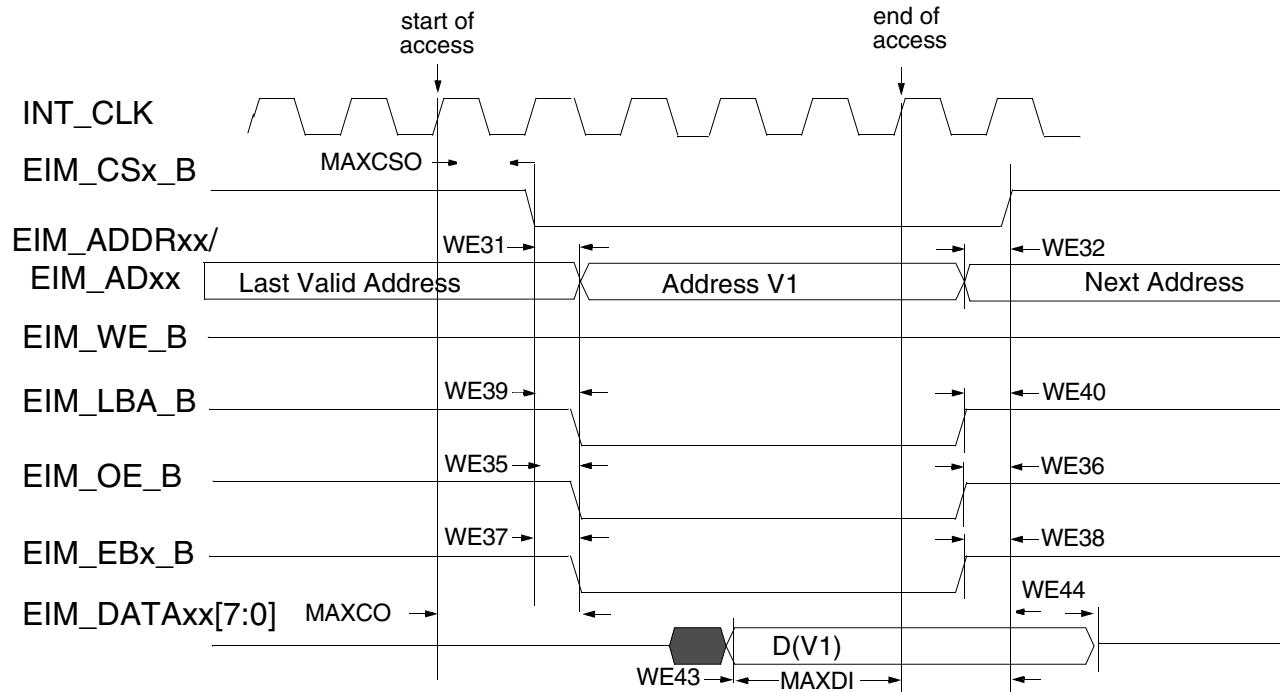
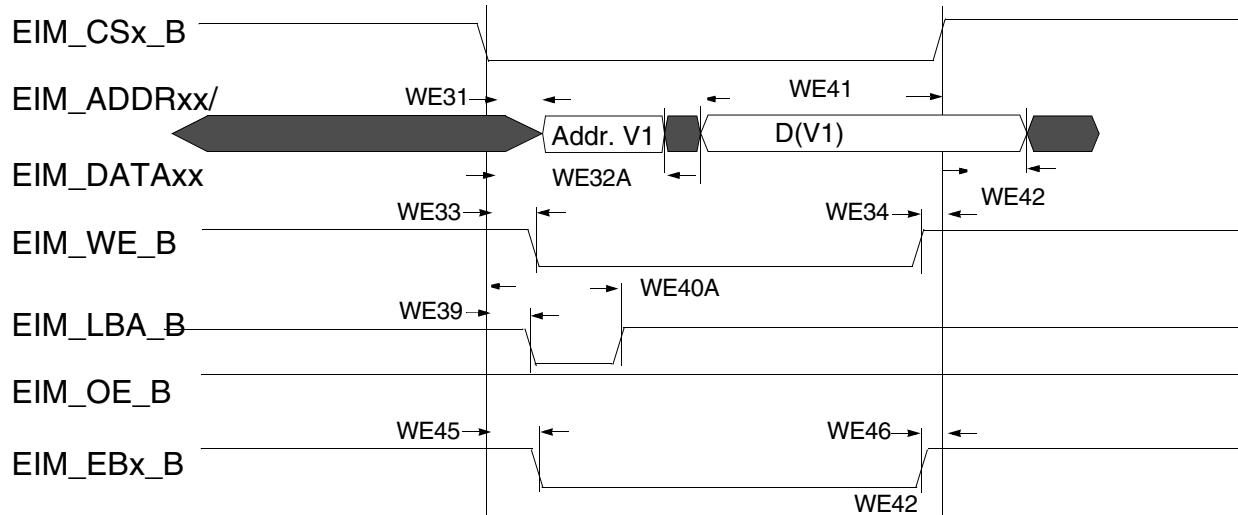
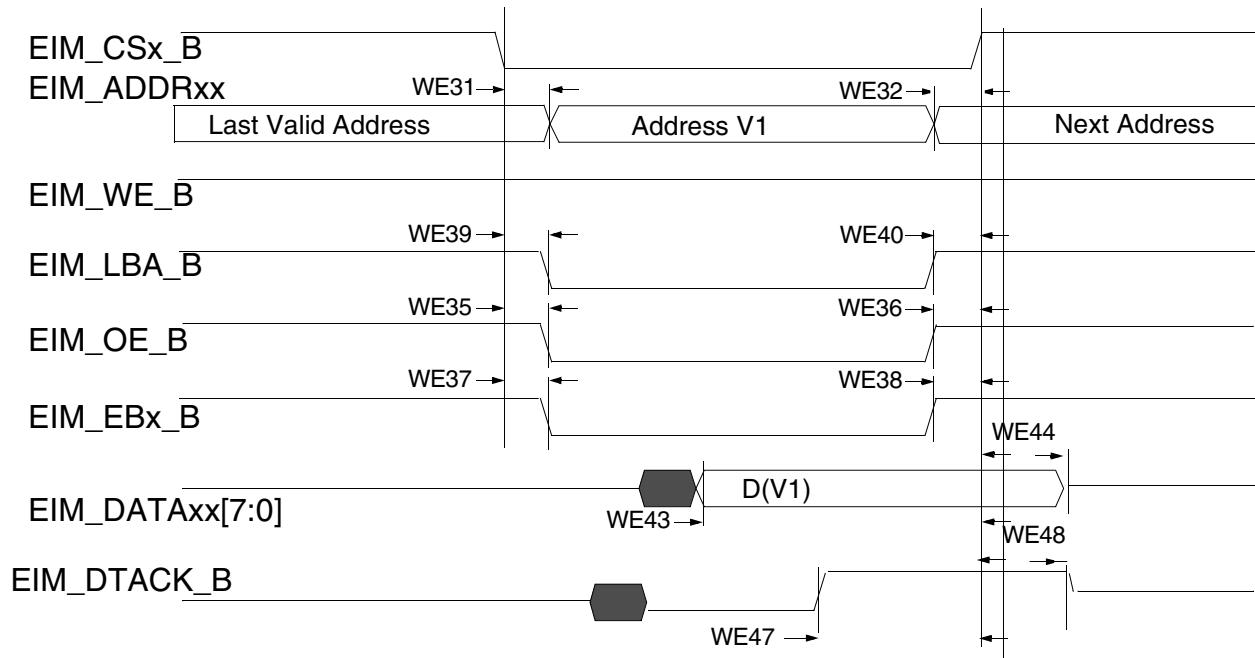

Figure 19. Asynchronous memory read access (RWSC = 5)
Figure 22. Asynchronous A/D muxed write access
Figure 23. DTACK mode read access (DAP=0)
Figure 19 through Figure 23, and Table 45 help you determine timing parameters relative to the chip select (CS) state for asynchronous and DTACK EIM accesses with corresponding EIM bit fields and the timing parameters mentioned above.
Asynchronous read & write access length in cycles may vary from what is shown in Figure 19 through Figure 22 as RWSC, OEN and CSN is configured differently. See the *i.MX 7Dual Applications Processor Reference Manual* (IMX7DRM) for the EIM programming model.